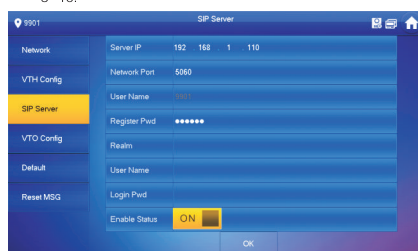

Figure 3-16
The system displays "SIP Server" interface, as shown in Figure 3-16.
1. In Figure 3-16, enter main VTO name, VTO IP, "User Name" and "Password".